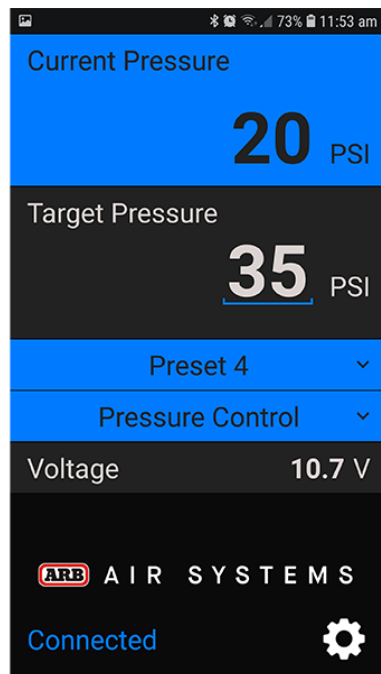

Figure 33
- 7-A) Download the “**ARB Compressor Connect**” App available for iOS or Android. Sample screen shots shown below in **Figures 33 and 34**. The settings shown are just examples and not recommendations. If you select the gear icon, bottom right, it will bring you to the settings screen. From here if you select the “i”, upper right, it will bring to an information screen that provides all the details of the app.